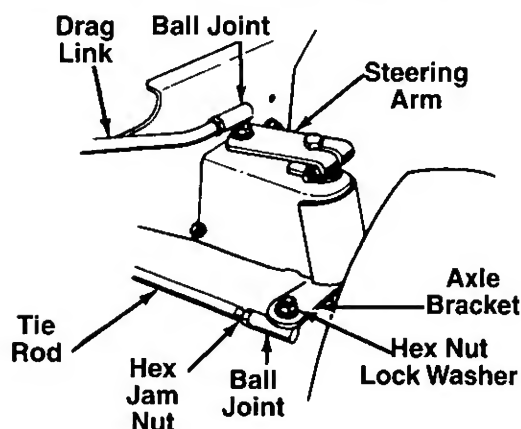

FIGURE 23.
1. Remove the hex nut and lock washer, and drop the end of the tie rod from the axle bracket. See figure 23.
To take off the drag link, remove the nuts and lock washers holding the ball joint to the steering gear and right front axle bracket. See figure 23.